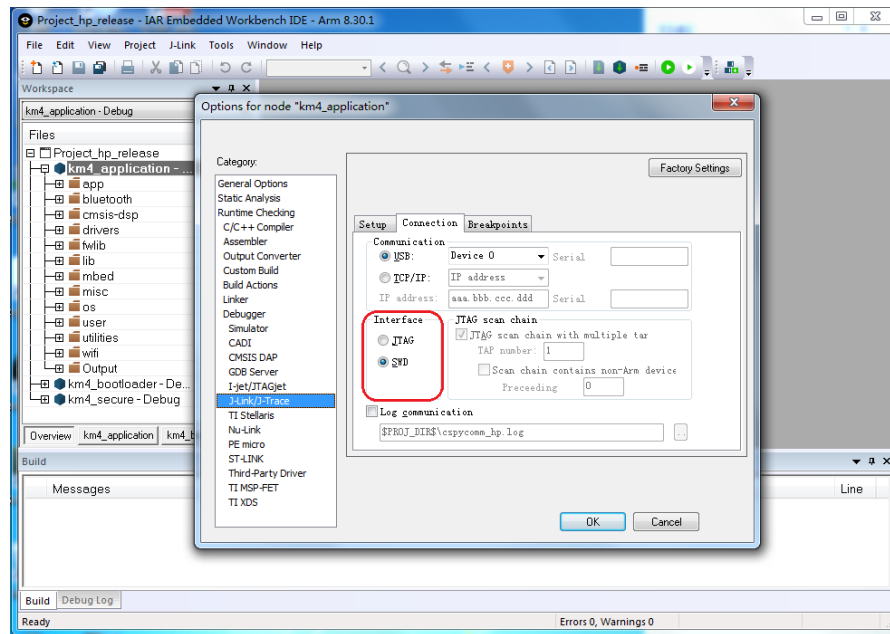

Fig 6-14 J-Link interface setup
- b) Click **Debugger > J-Link/J-Trace > Connection > Interface**, and choose "SWD", as Fig 6-14 shows.